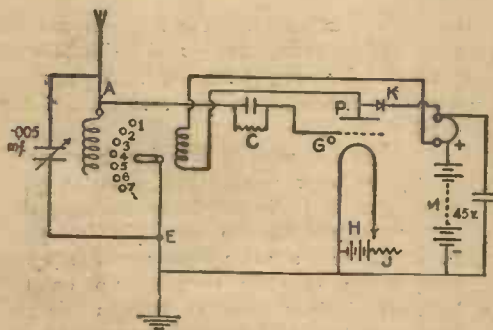

Fig. 4.—Diagram of Connections for Complete Receiver.
The complete receiver is shown in the diagram Fig. 4. It will be seen that the aerial is joined to the inductance coil at the end nearest to No. 1 tapping. The earth is connected to the arm of the seven-point switch, and the variable condenser is placed between the aerial and earth. The grid of the valve (G) is connected to the aerial terminal through a grid leak and condenser (C), which may be omitted with very little detriment to the signal strength. If used, the grid leak should be of two megohms resistance and the grid condenser of .003 micro-farad capacity.